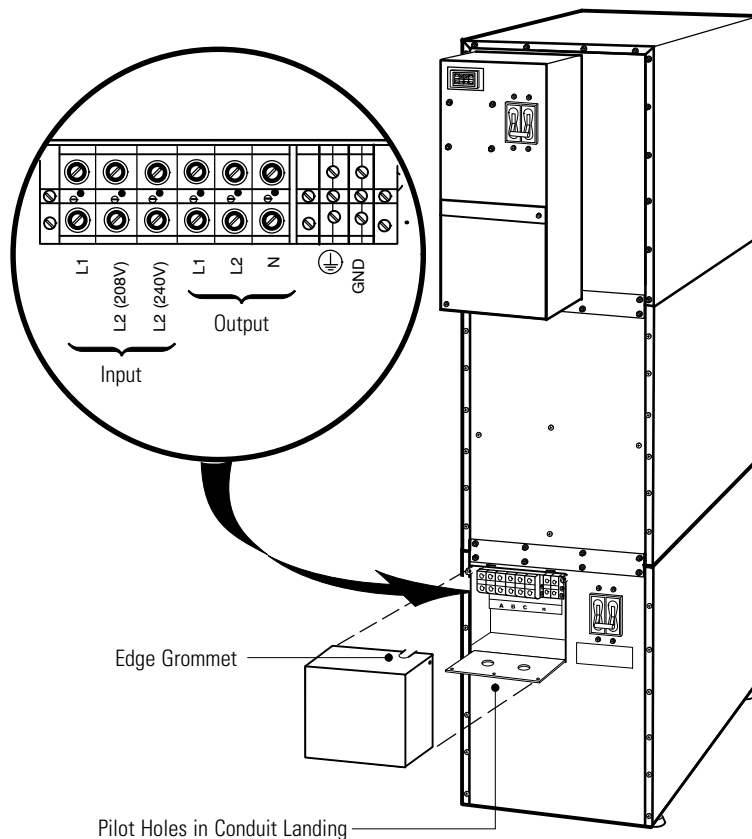

Figure 10. Input Isolation Transformer Hardwiring
10. On the input isolation transformer, punch the two pilot holes in the conduit landing for the input and output conduit using a Greenlee® punch or similar device (see Figure 10).
See Table 2 for specifications and Figure 10 for a detailed view of the input isolation transformer terminal block.
- On the input isolation transformer, punch one pilot hole in the conduit landing for the input conduit using a Greenlee punch or similar device (see Figure 10 on page 19).